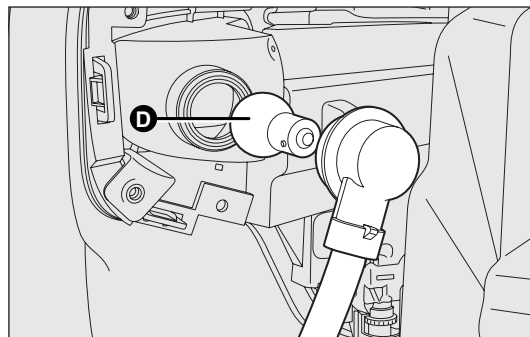

fig. 171
- ❑ remove the bulb D-fig. 171 by pushing it in gently and turning anti-clockwise ("bayonet" clamping), then replace it;